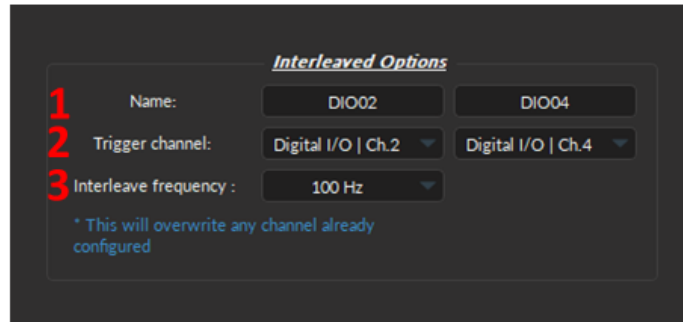

Figure 9.37: Channel(s) configuration window, Analog Input Interleaved
To use the **interleaved mode**, specify the parameters in the **Interleaved Options** section of the *Channel Configuration* window (Fig. 9.37):
1. The **Name** (Fig. 9.37, 1) lets users customize the label of the channel to increase clarity of the acquisition system.
2. The **Trigger channel** (Fig. 9.37, 2) drop-down list allows the choice of interleaved outputs (can be either digital or analog). However, once the first channel is selected, the user will only be allowed to select the same type of output (analog or digital) for the second channel.
3. The **Interleave frequency** (Fig. 9.37, 3) drop-down list allows the choice of a pre-configured frequency (either 10, 20, 50 or 100Hz) for the interleaved channels. The two selected trigger channels will be configured to function at the chosen frequency.